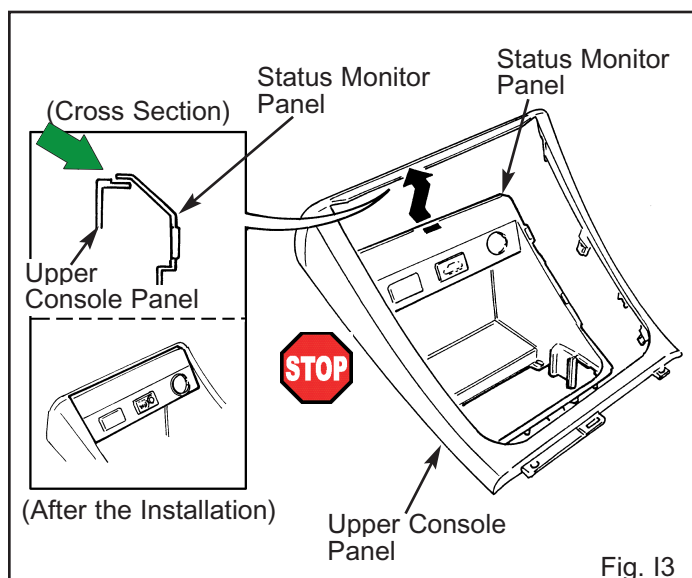

Fig. I3
3. Install the status monitor panel into the upper console panel. (Fig. I3)
- STOP** ii. Verify the panels fit together properly with no uneven gaps between them. If the panels are not fit properly together as shown in the close-up box, Figure I3, the panels may snap and break when proceeding with the next installation step.